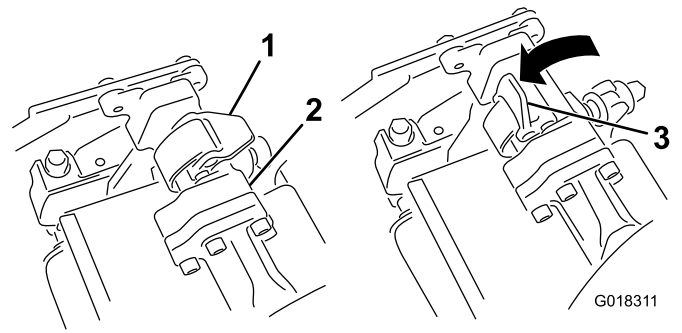
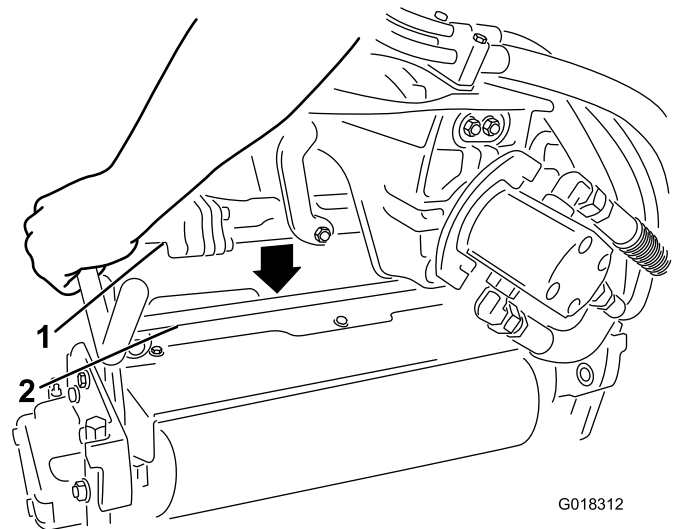

Figure 2
Figure 3
2. With the latches on the suspension-arm bar opened (Figure 2), push the suspension arm down so that it fits over the bar across the top of the spiker unit (Figure 3).
3. Close the latches to lock the spiker unit in place (Figure 2)